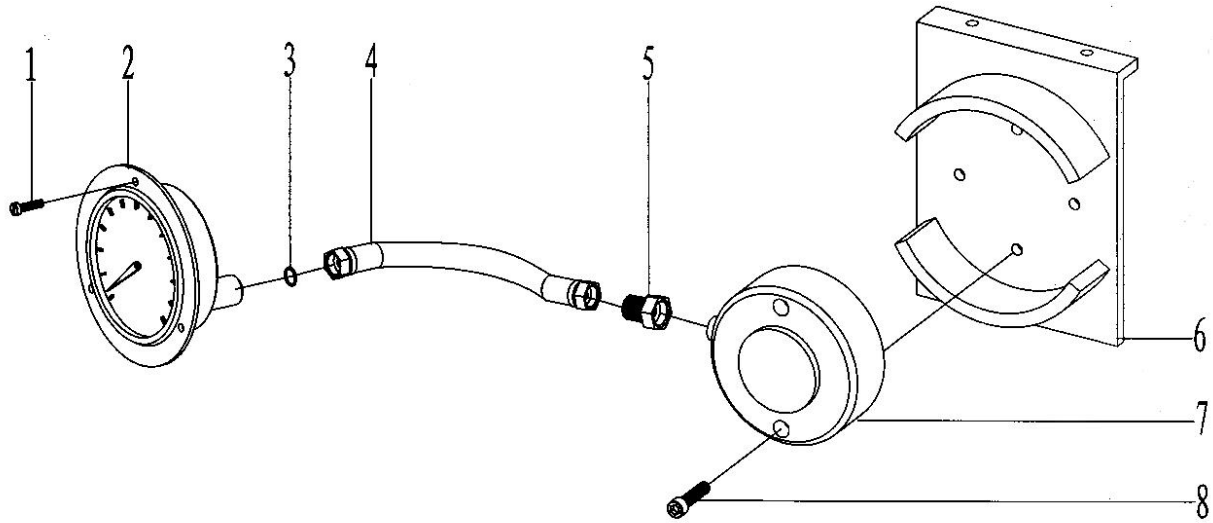

Fig .7-24
24. Torque testing assembly (Fig7-24, Table24)